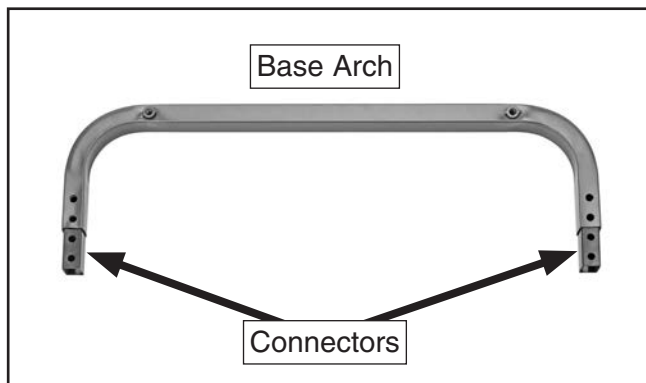

Figure 3. Connectors installed in base arch.
1. Locate base arch (see **Figure 3**) and install (2) connectors.